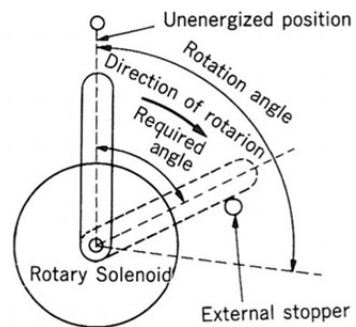

Fig. 2
A) Use of an External Stopper (Fig. 2)